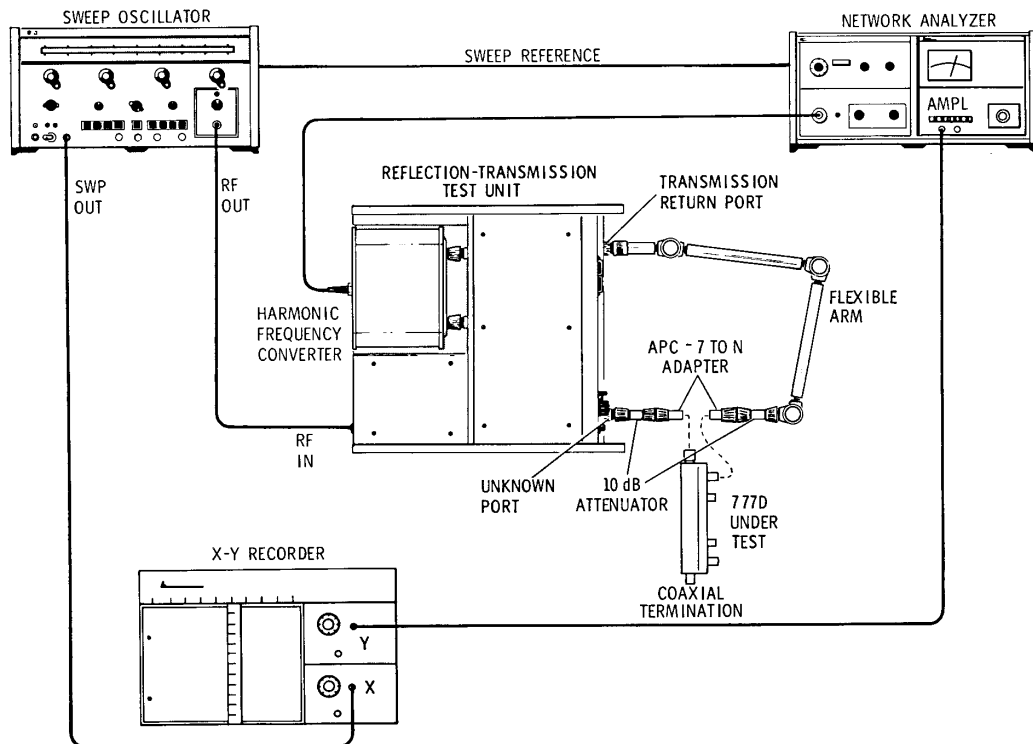

Figure 5 Coupling test and Primary Line Insertion Loss Test Setup
Description Refer to Figure 5 for test setup and Table 2 on page 6 for test equipment.
The equipment shown in Figure 5 is calibrated for a transmission measurement with the Flexible Arm, Attenuators, and APC-7 Adapters connected in a through path. The Network Analyzer test channel gain and amplitude vernier controls are adjusted for a zero dB meter indication at the lowest frequency of the band to be swept. The X-Y Recorder Y axis sensitivity is adjusted so that 0.2 dB equals approximately one inch with zero dB at the center. Calibration lines are drawn in 0.2 dB increments to $\pm 0.8 \text{ dB}$ by adjusting the Network Analyzer amplitude vernier control. The 777D coupled arm is inserted in the test setup. The Network Analyzer test channel gain is increased 20 dB and the coupling response is drawn on the X-Y recorder. Coupling attenuation and coupling variation are determined from the X-Y Recorder graph.
1. Connect equipment as shown in Figure 5 with the flexible arm, attenuators, and APC-7 to Type N adapters connected in a through-transmission path.
Description Refer to Figure 5 on page 10 for test setup and Table 2 on page 6 for test equipment.
The equipment shown in Figure 5 is calibrated for a transmission measurement with the flexible arm, attenuators, and APC-7 to Type N adapters connected in a through path. The network analyzer test channel gain and amplitude vernier controls are adjusted for a zero dB 8413A meter indication at the lowest frequency of the band to be swept. The X-Y recorder Y axis sensitivity is adjusted so that 0.2 dB equals approximately one inch with zero dB in the upper portion of the graph. A zero dB calibration line is drawn and a calibration line at -0.75 dB is drawn by adjusting the Network Analyzer amplitude vernier control. The 777D primary line is inserted in the setup (secondary line connectors terminated). A test trace is drawn on the X-Y Recorder. The test trace must be within the two calibration traces.
1. Connect equipment as shown in Figure 5 on page 10 with flexible arm, attenuators, and APC-7 to Type N adapters connected in a through transmission path.